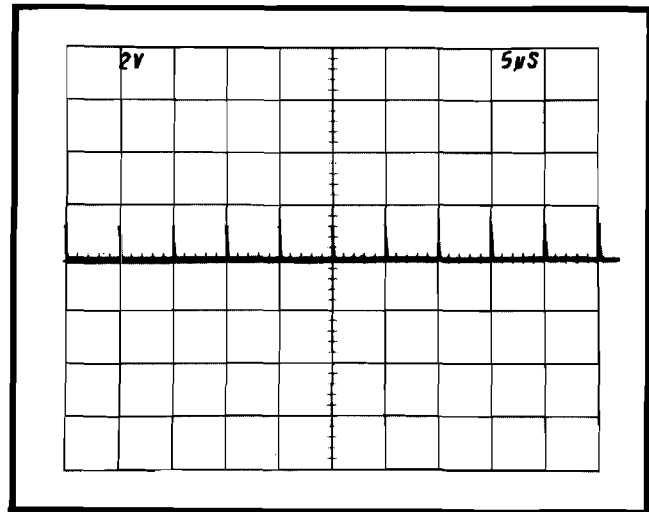

Fig. 5-11. CRT display showing correct 5 μ s timing.
- c. CHECK—CRT display for one marker each division between the second and tenth vertical lines. Check that sweep timing is within 0.16 division (2%) over the center eight divisions. See Fig. 5-11.